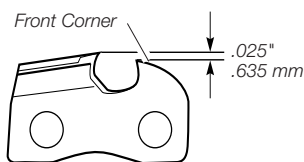

Figure 26 - Round Off Front Corner Of Depth Gauge
3. Remove depth gauge tool. With flat file, round off front corner of cutter depth gauge (see Figure 26).